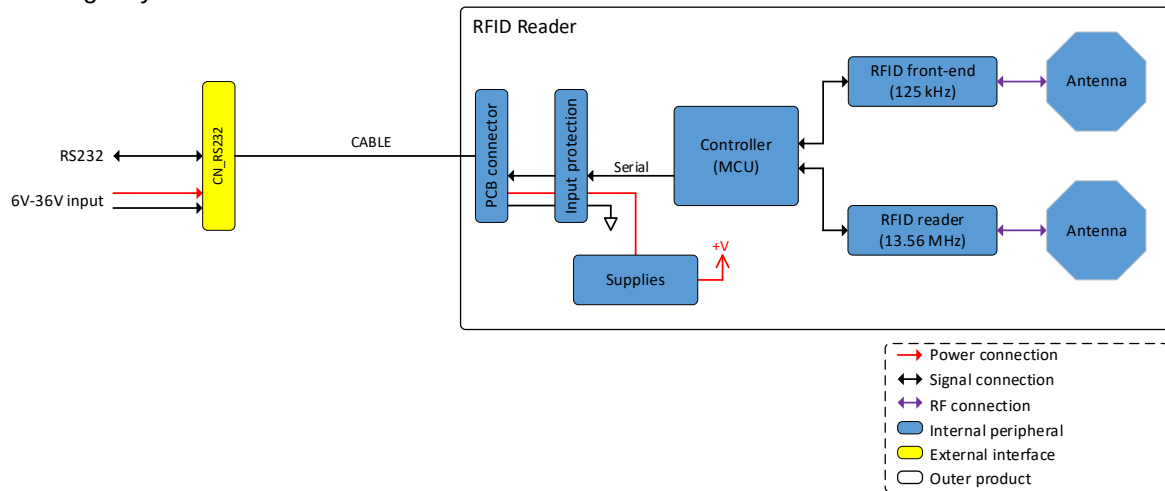

Figure 3-1: Main block diagram
- 5 Figure 3-1 shows the global block diagram of the RFID Reader with a functional level of detail showing only main connections.